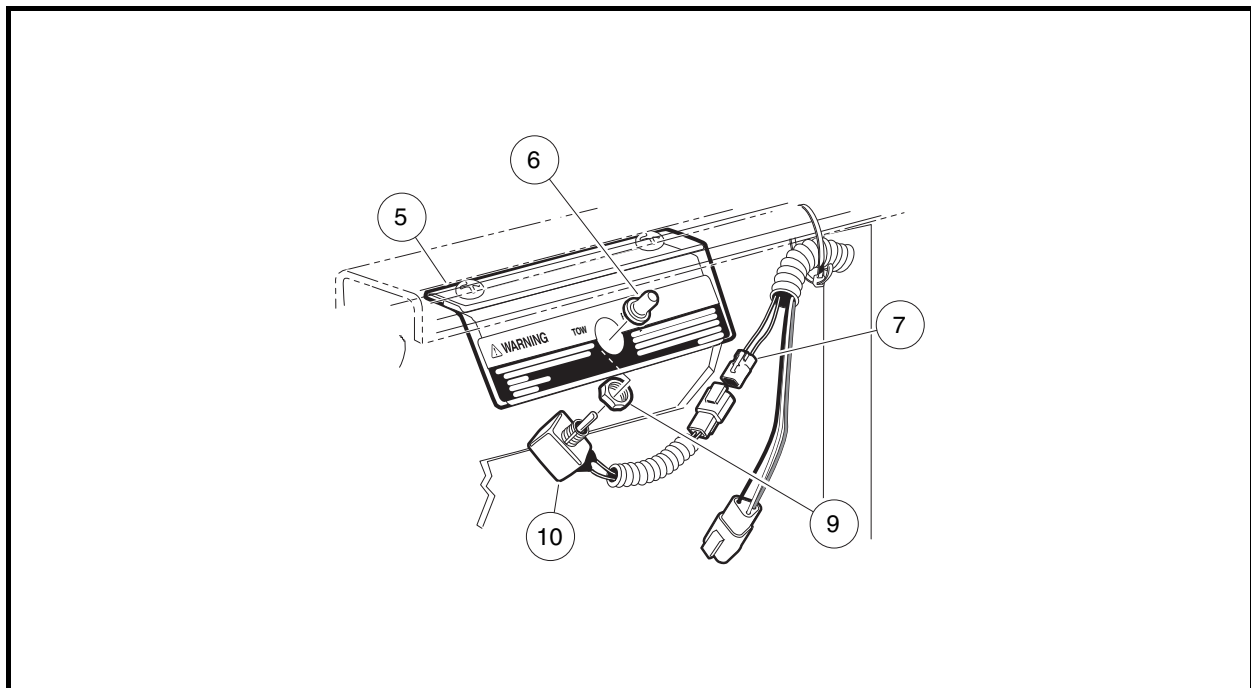

Figure 13-3 Tow/Run Switch
2. Remove Tow/Run switch boot/hex nut (6) (Figure 13-3, Page 13-4).
3. Remove Tow/Run switch (10) and nut (9) from bracket (5).
4. Disconnect the two-pin connector (7) and remove switch.
1. Installation is reverse of removal. Make sure groove on switch is aligned with tang on bracket. Tighten Tow/Run switch boot/hex nut (6) to 16 in-lb (1.8 N·m) (Figure 13-3, Page 13-4).